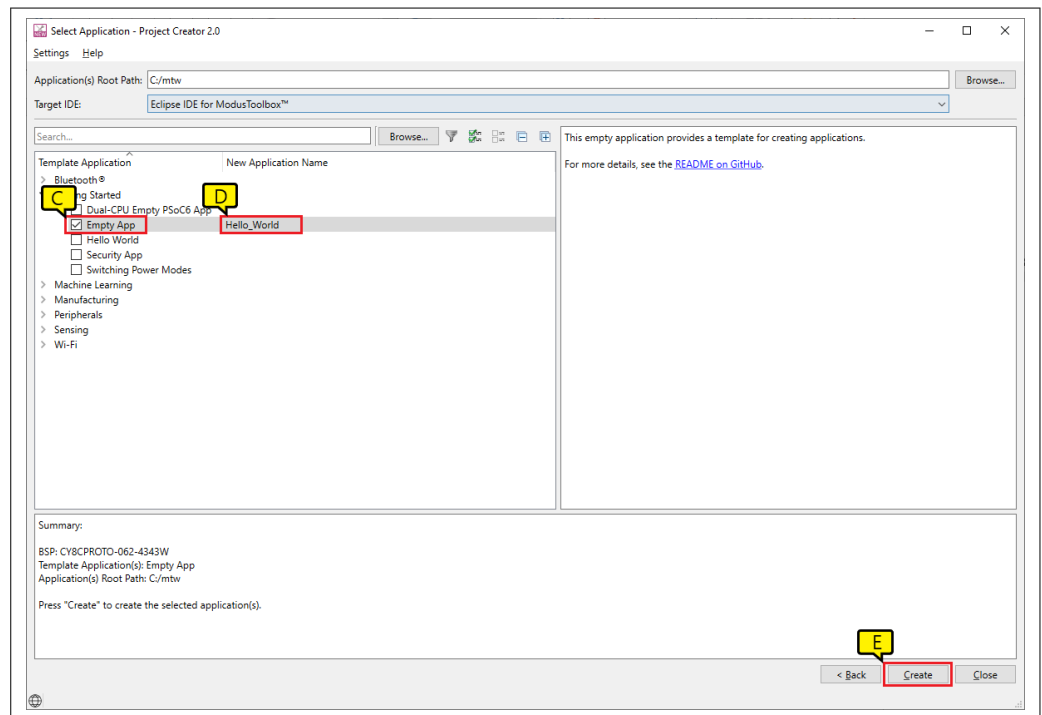

Figure 14 Choose starter application
- c. In the **Select Application** dialog, select **Empty App** starter application, as Figure 14 shows.
- e. Click **Create** to create the application, as Figure 14 shows, wait for the Project Creator to automatically close once the project is successfully created.